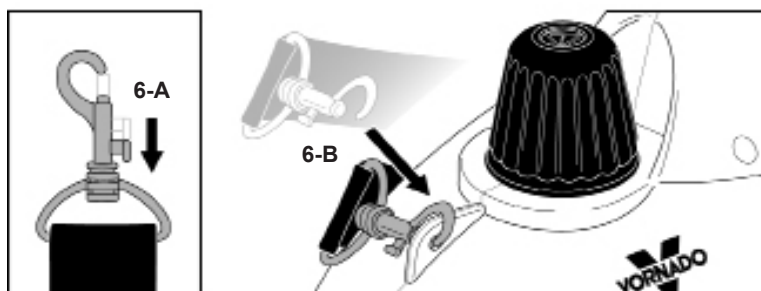

FIGURE 6
1. Grasp clasp on one end of Shoulder Strap. Press down and hold lock to open clasp (FIGURE 6-A).
2. Slide clasp through hole of front Strap Tab, then release lock to close clasp (FIGURE 6-B).